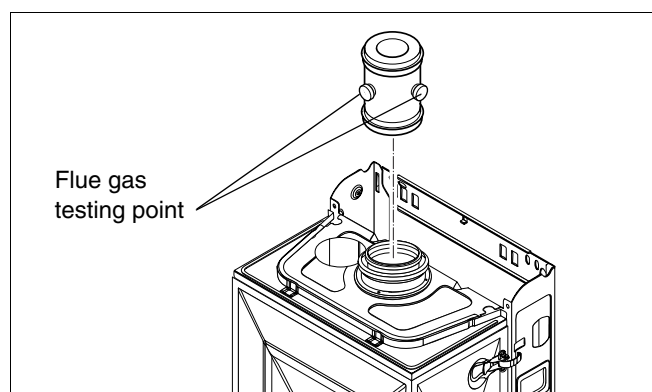

Fig. 11 Vertical flue connection
- Fit the vertical flue gas duct (fig. 11) onto the appliance flue connector.